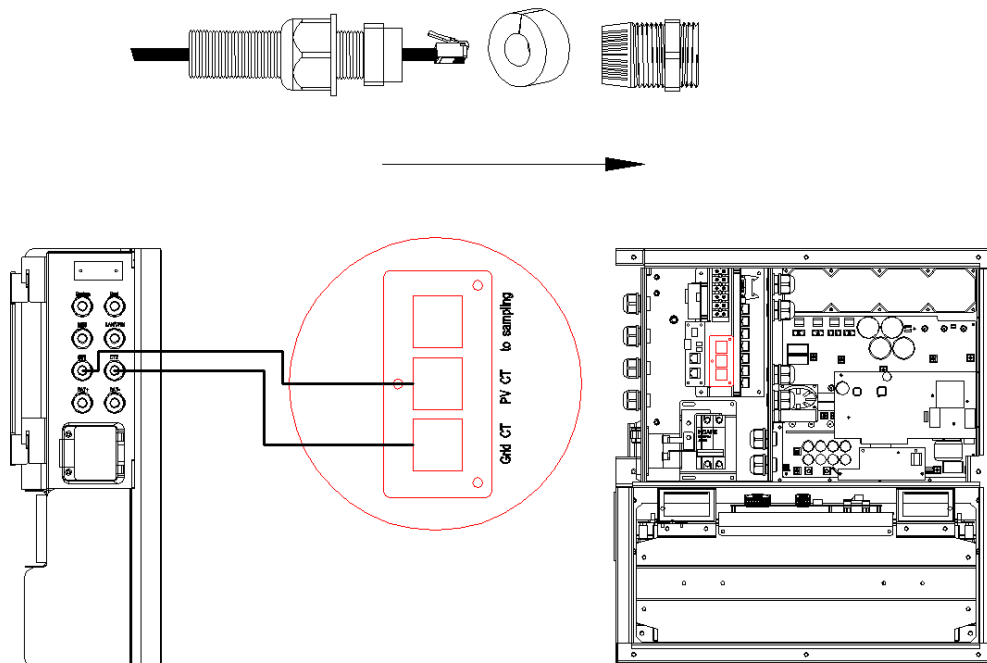

Figure 2.12 CT Wire Harness Wiring
Step 7: Complete for installing CT, as shown in Figure 2.12.